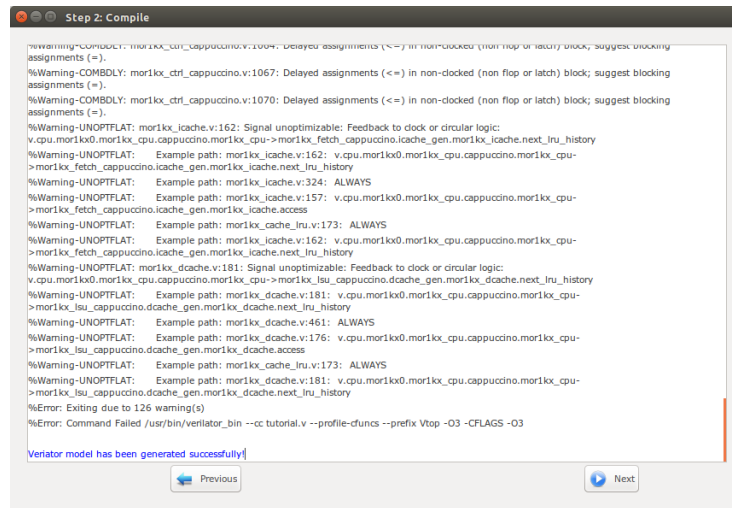

Figure 5.20: Verilator model generation snapshot.
2. The Verilator Model of your SoC should be generated now. If the model is generated successfully, you must see "Veriator model has been generated successfully!" in the textview window as shown in Figure 5.20.